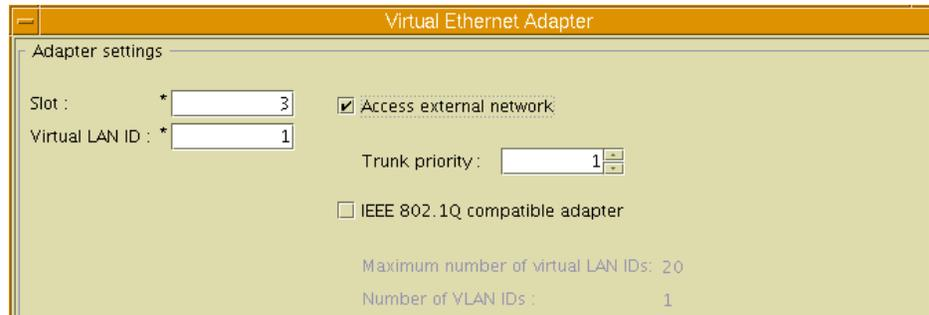

Figure 4-24 Key in the Virtual Ethernet Slot ID and the VLAN ID
- Enter the Virtual SCSI slot ID and the VLAN ID. If you need to create a Shared Ethernet adapter to allow the partition to access the external network, you need to check on the “Access external network”. See Figure 4-24 on page 384.